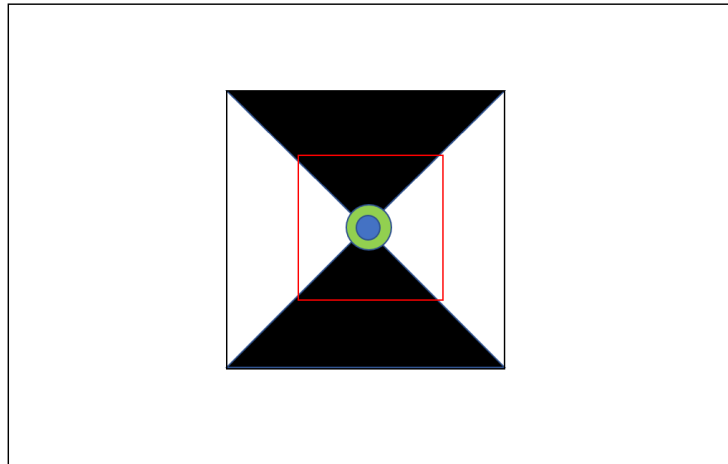
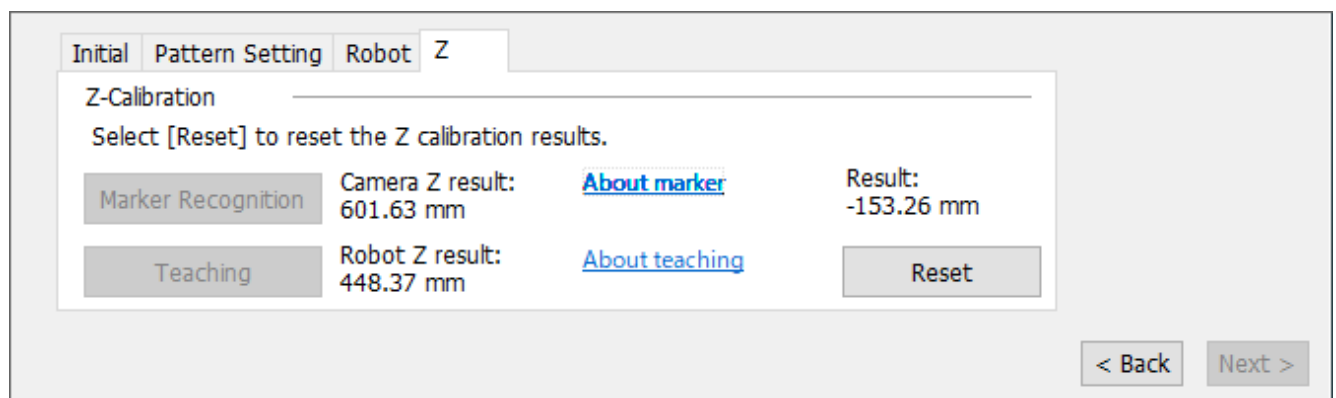

Fig.7-32 Marker recognition successful status
Fig.7-33 Z calibration window
Select [Recognize] to perform marker recognition. When marker recognition is properly performed, "Camera Z result" in "Fig.7-33 Z calibration window" displays the Z coordinates of the marker's center point in the camera coordinate system. A mark resulting from the calibration is displayed in the center of the marker. ("Fig.7-32 Marker recognition successful status", "Fig.7-33 Z calibration window").
3. Perform teaching. In the "Z" tab, press the [Teaching] button while the tip of the robot arm touches the workbench as shown in the following figure. This displays the Z coordinates of the marker's center point in the robot coordinate system under "Robot Z result" in "Fig.7-33 Z calibration window".